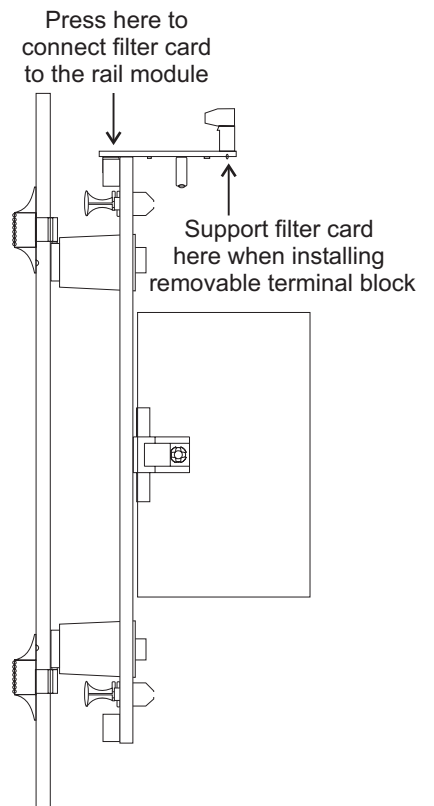

Figure-1: Filter card and LIM card installation
1. Connect the SDC card to CIRCUIT 1 on the back side of the rail module assembly. See Figure-1 on reverse side.
Figure-1: Tamper switches mount to the top or side of their respective cabinets and are secured using hardware provided in the hardware kit. This figure shows the installation of a 3-TAMP.